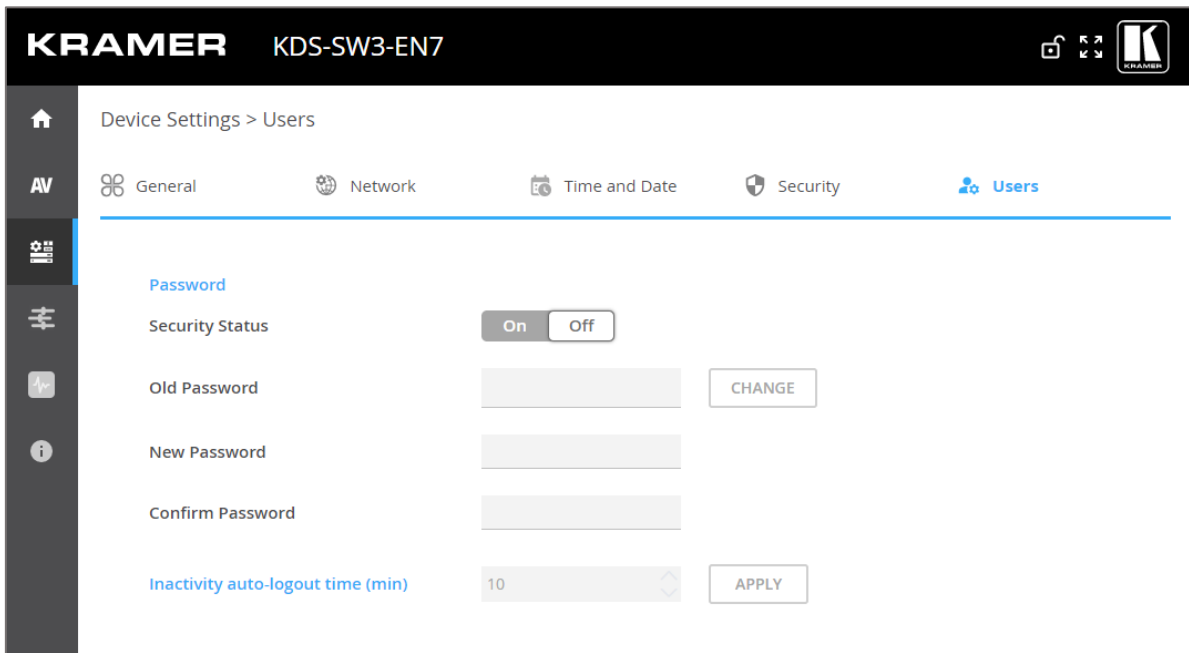

Figure 33: Device Settings Page – Users Tab
2. Select Users tab (see Figure 33).